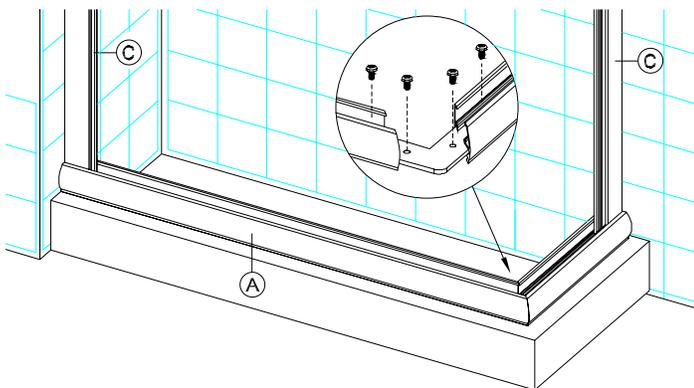

figure 3
Position Wall Jamb (C) onto end of base Sill and up against the shower walls as shown in figure 3. Plumb the Wall Jamb, then pencil mark the installation hole locations on the shower walls (3 per Jamb). Remove Wall Jamb. Using a 3/16" drill bit (designed to drill through material you are working with), drill 1" deep installation holes in the locations previously marked. Insert Plastic Screw Anchors (Y) into holes. Reposition Jamb as before and secure Jamb to walls using six(6) 1-1/4" Installation Screws (W).